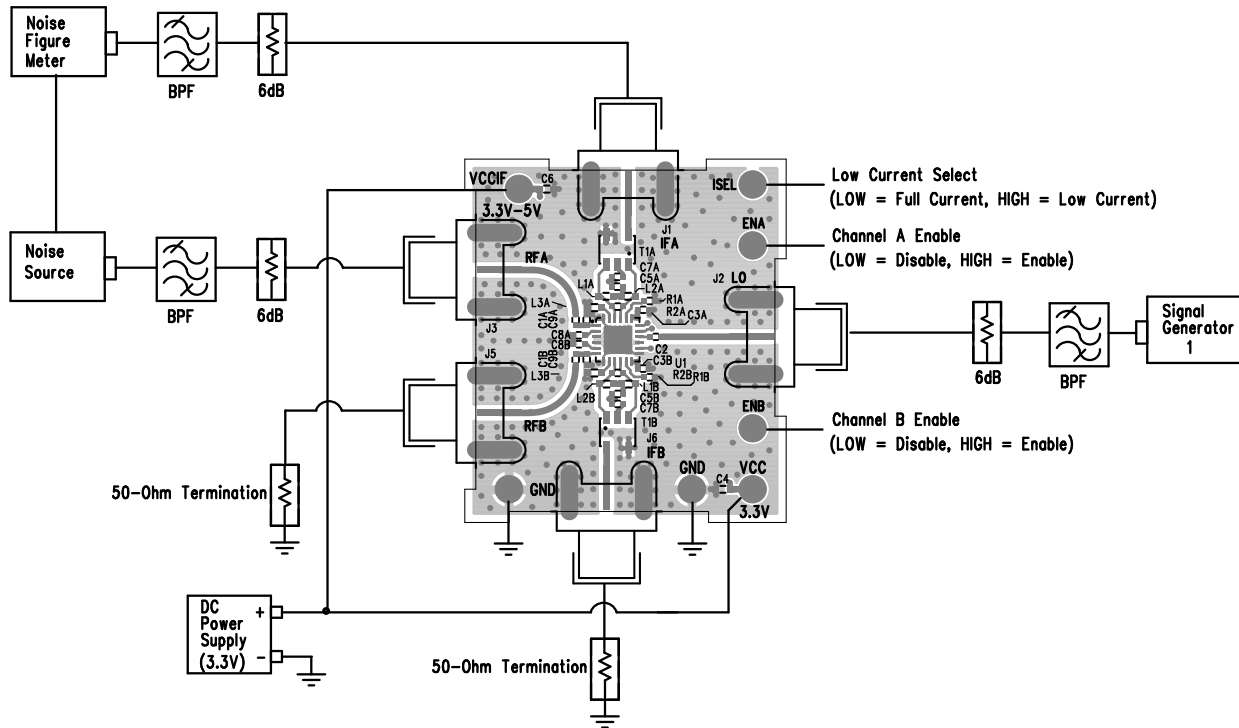

Figure 7. Proper Equipment Setup for Noise Figure Measurement
The LTC5590 is a dual high dynamic range downconverting mixer IC with very high input 3rd order intercept. Accuracy of its performance measurement is highly dependent on equipment setup and measurement technique. The recommended measurement setups are presented in Figure 5, Figure 6, and Figure 7. The following precautions should be observed:
The LTC5590 consists of high linearity passive double-balanced mixer cores and IF buffer amplifiers. Due to the bidirectional nature of all passive mixers the $\text{LO} \pm \text{IF}$ mixing products, also referred to as pseudo-image spurs, are always present at the RF input, typically at a level 12dB below the RF input signal. Mismatched impedances at the pseudo-image spur frequencies, such as when filters are used for SSB NF measurements, can significantly impact the linearity and noise figure measurements. To avoid interference from the pseudo-image spurs, terminate the RF input port with an isolator, diplexer, or attenuator. In the recommended measurement setups presented in Figure 6 and Figure 7, the 6dB attenuator pad at the demonstration circuit's RF input serves this purpose.
Demonstration circuit 1710A-A is easy to set up to evaluate the performance of the LTC5590. Refer to Figure 5, Figure 6, and Figure 7 for proper equipment connections. The following procedures describe performing measurements on Mixer Channel A. The measurement procedures for Mixer Channel B are identical.
2. Connect all test equipment as shown in Figure 7 with the signal generator and the DC power supply turned off.